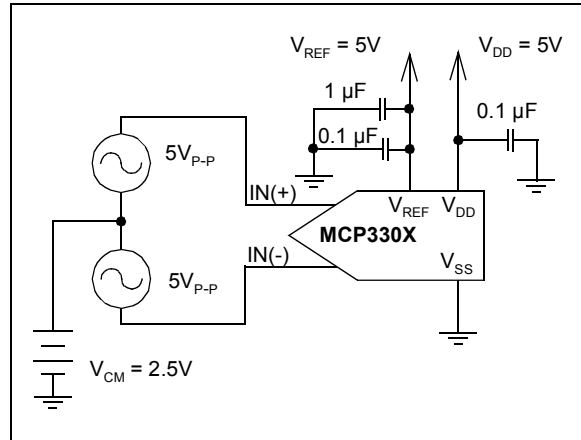

FIGURE 3-4: Full Differential Test Configuration Example.
**Full Differential Input** - Applying a full differential signal to both the IN(+) and IN(-) inputs is referred to as full differential operation. This configuration is described in Figure 3-4.